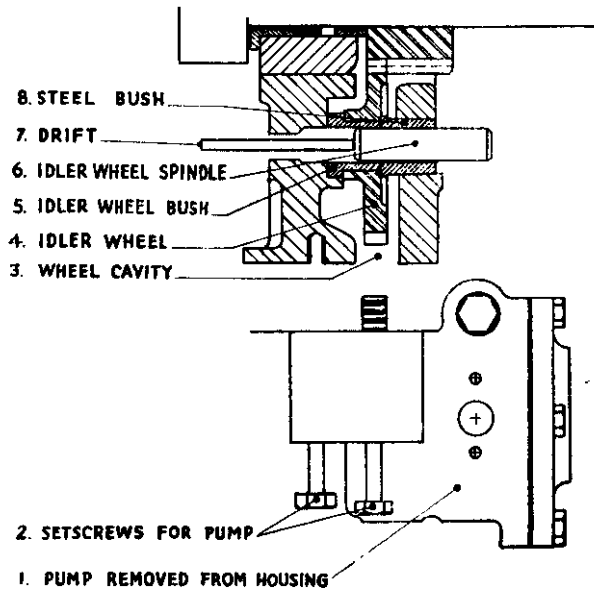

Fig. 11
- iii. Undo the three setscrews item (2) holding the pump to the housing —after which it may be taken away—see Fig. 11.
- ii. With finger, or drift $\frac{3}{8}$ " dia. through the hole in the crankcase press the spindle out withdrawing the wheel downwards. Fig. 11 shows drift pressing spindle out.
- i. Enter the wheel into the cavity with boss and bush flange facing inwards. See Fig. 11.